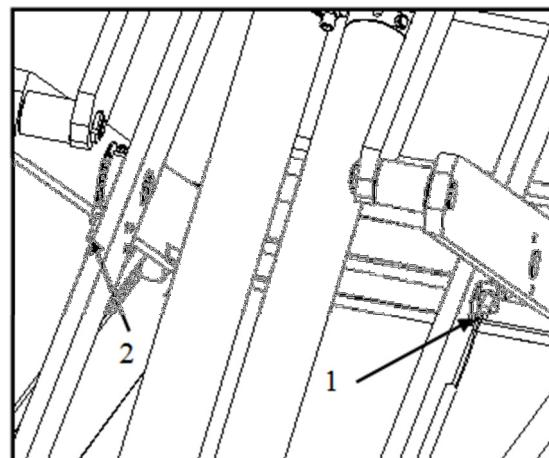
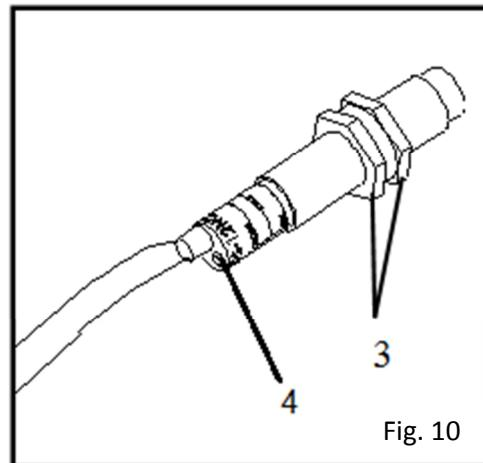

Fig. 9
Fig. 10
The limit switches have to be adjusted during the installation of the lift, they are placed on the scissors of platform 2. The upper limit switch (1, fig.9) regulates the maximum lifting height and the lower limit switch (2, fig.9) is to prevent the lift from lowering to the floor in 1 time.
2. Loosen the nuts (3, fig.10) of the limit switch (1, fig.9) and adjust the sensors position, adjust it so that the red light on the back of the sensor lights up exactly.
2. Loosen the nuts (3, fig.10) of the limit switch (2, fig.9) and adjust the sensors position, adjust it so that the red light on the back of the sensor lights up exactly.